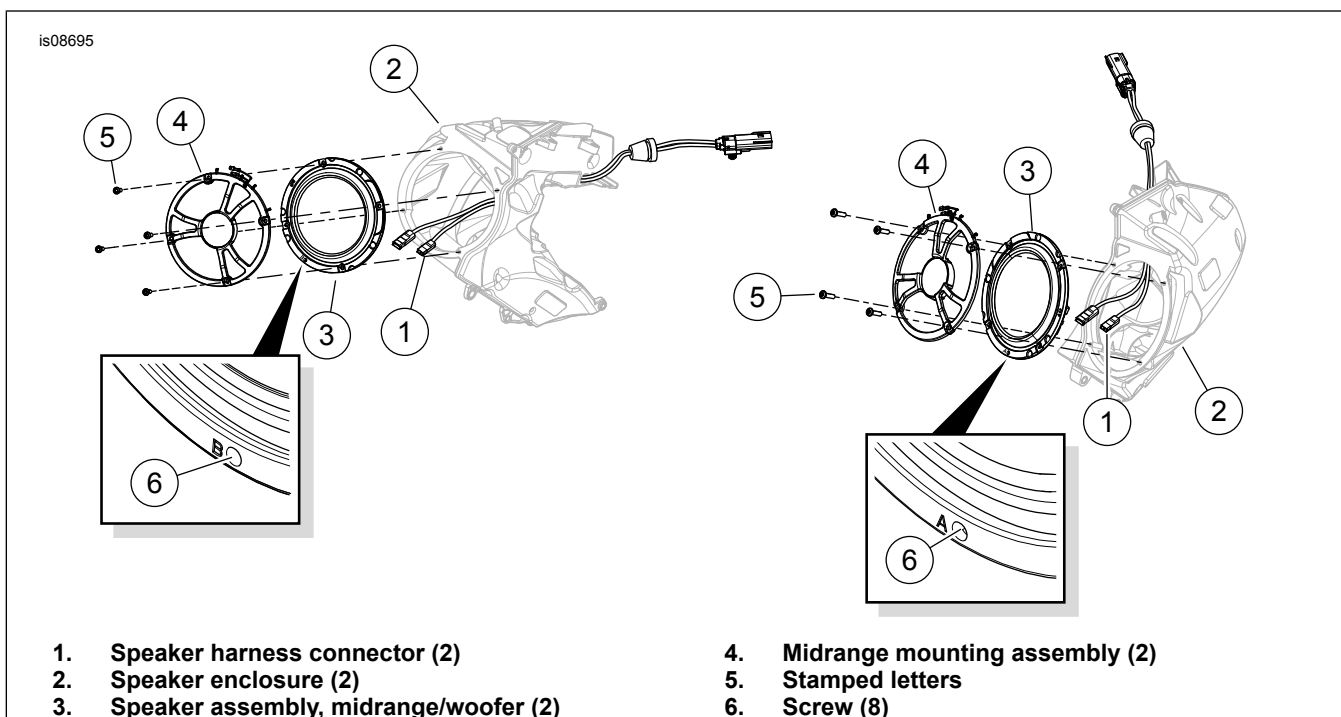

Figure 1. Woofer Speaker Installation
1. See Figure 1. Attach the speaker harness connectors (1) inside the speaker enclosure (2) to the spade terminals on the back of the woofer (3). Different size spade contacts prevent improper assembly.
3. Position the midrange speaker mounting assembly (4) over the woofer. Rotate the midrange assembly to align the mounting holes with the woofer. Position the wires at the top of the midrange mounting ring.
4. Fasten the woofer and midrange speakers to the enclosure with four screws (5). Tighten.